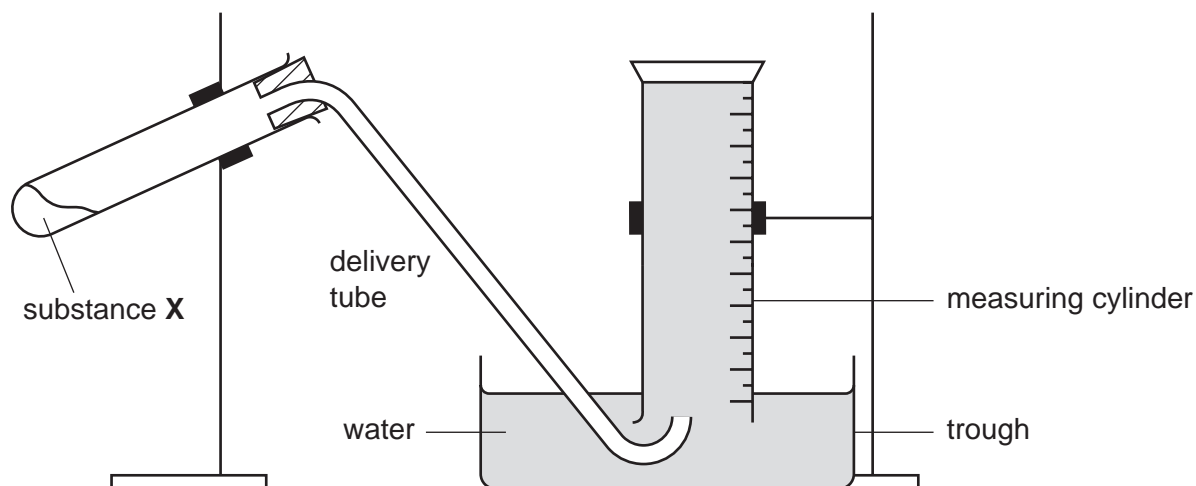

Fig. 3.1
- (i) a bung to fit a 125 x 15 mm hard glass test-tube. The test-tube should contain a short length of glass tubing which is connected to a piece of rubber tubing to act as a delivery tube. See Fig. 3.1;